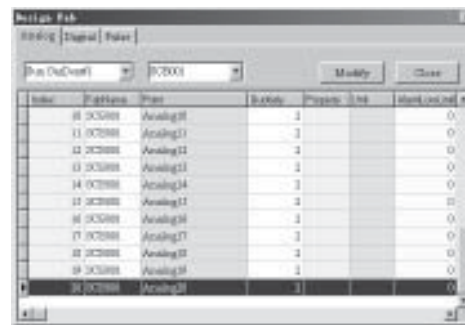

Fig. 4-15 Defining O1,O2,O3,O4,O5
Step 7. Define Port O1~O5 as Fan Lamp Door lock, Cooking pot, Air conditioner, respectively. And they are all tele-communicating ports as in Fig. 4-15.